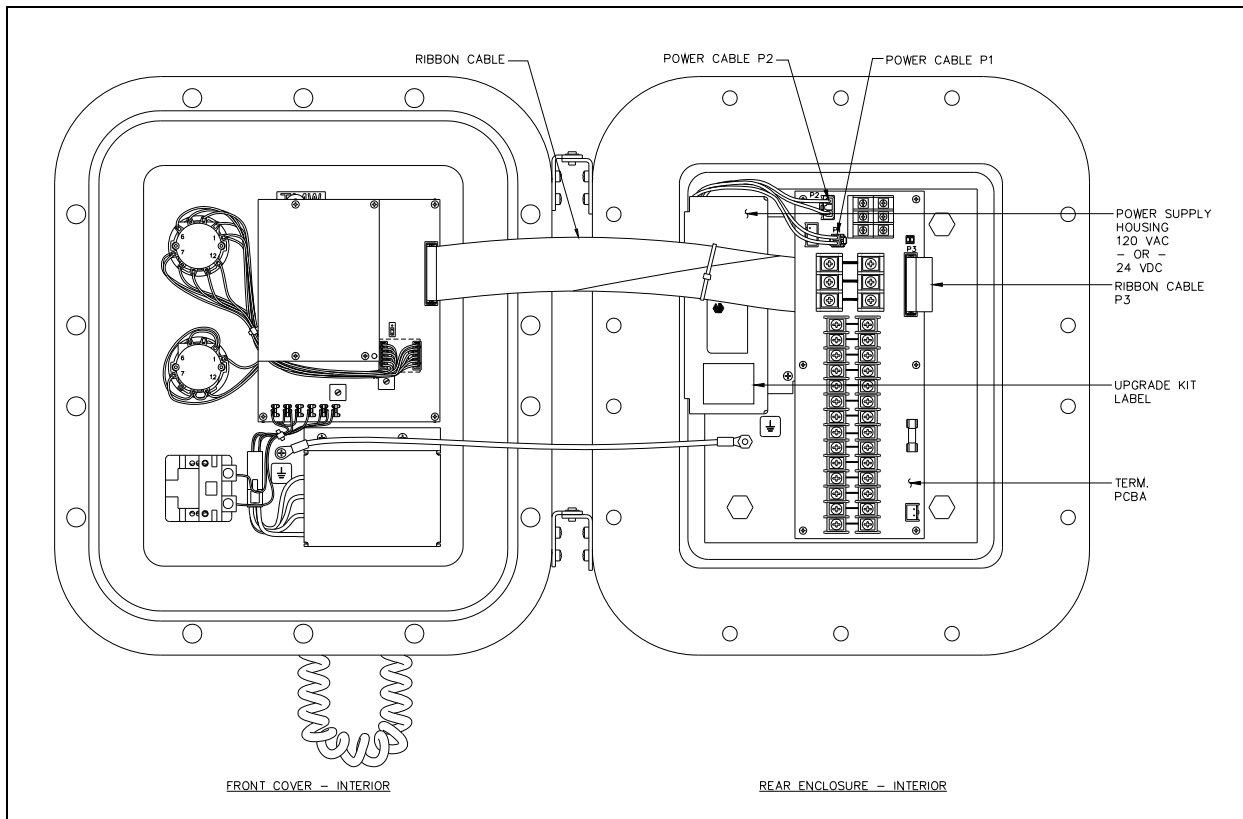

Figure 2. Upgraded ICS Hazardous Area Station – Interior View
8. Place the upgrade kit label on the power supply housing as shown in Figure 2.
10. Plug the power cables back into P1 and P2 of the Termination PCBA. Refer to Figure 2 for the completed assembly configuration.